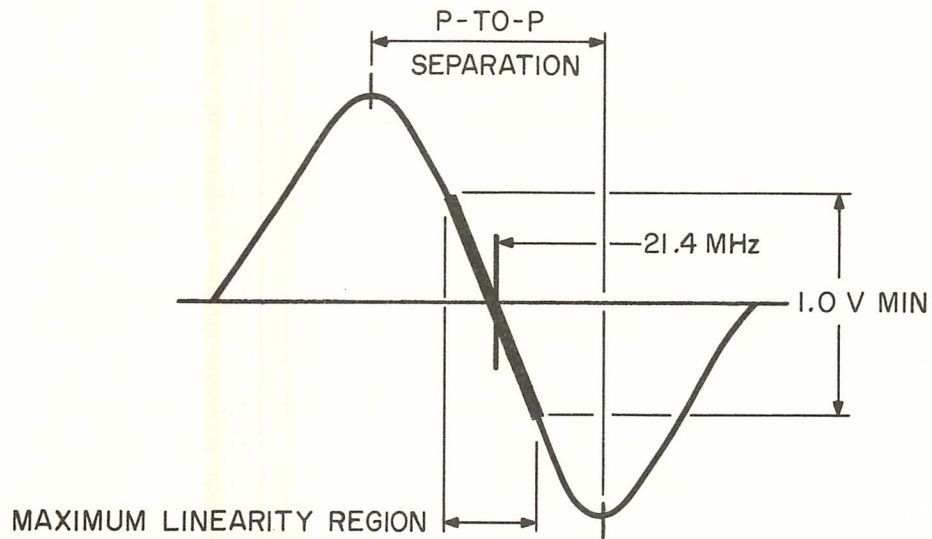

Figure 5-5. IF-211 Family Discriminator Response.
- (3) Adjust L8 for maximum amplitude and L9 and L10 for maximum linearity of response, refer to Table 5-9 and Figure 5-5.